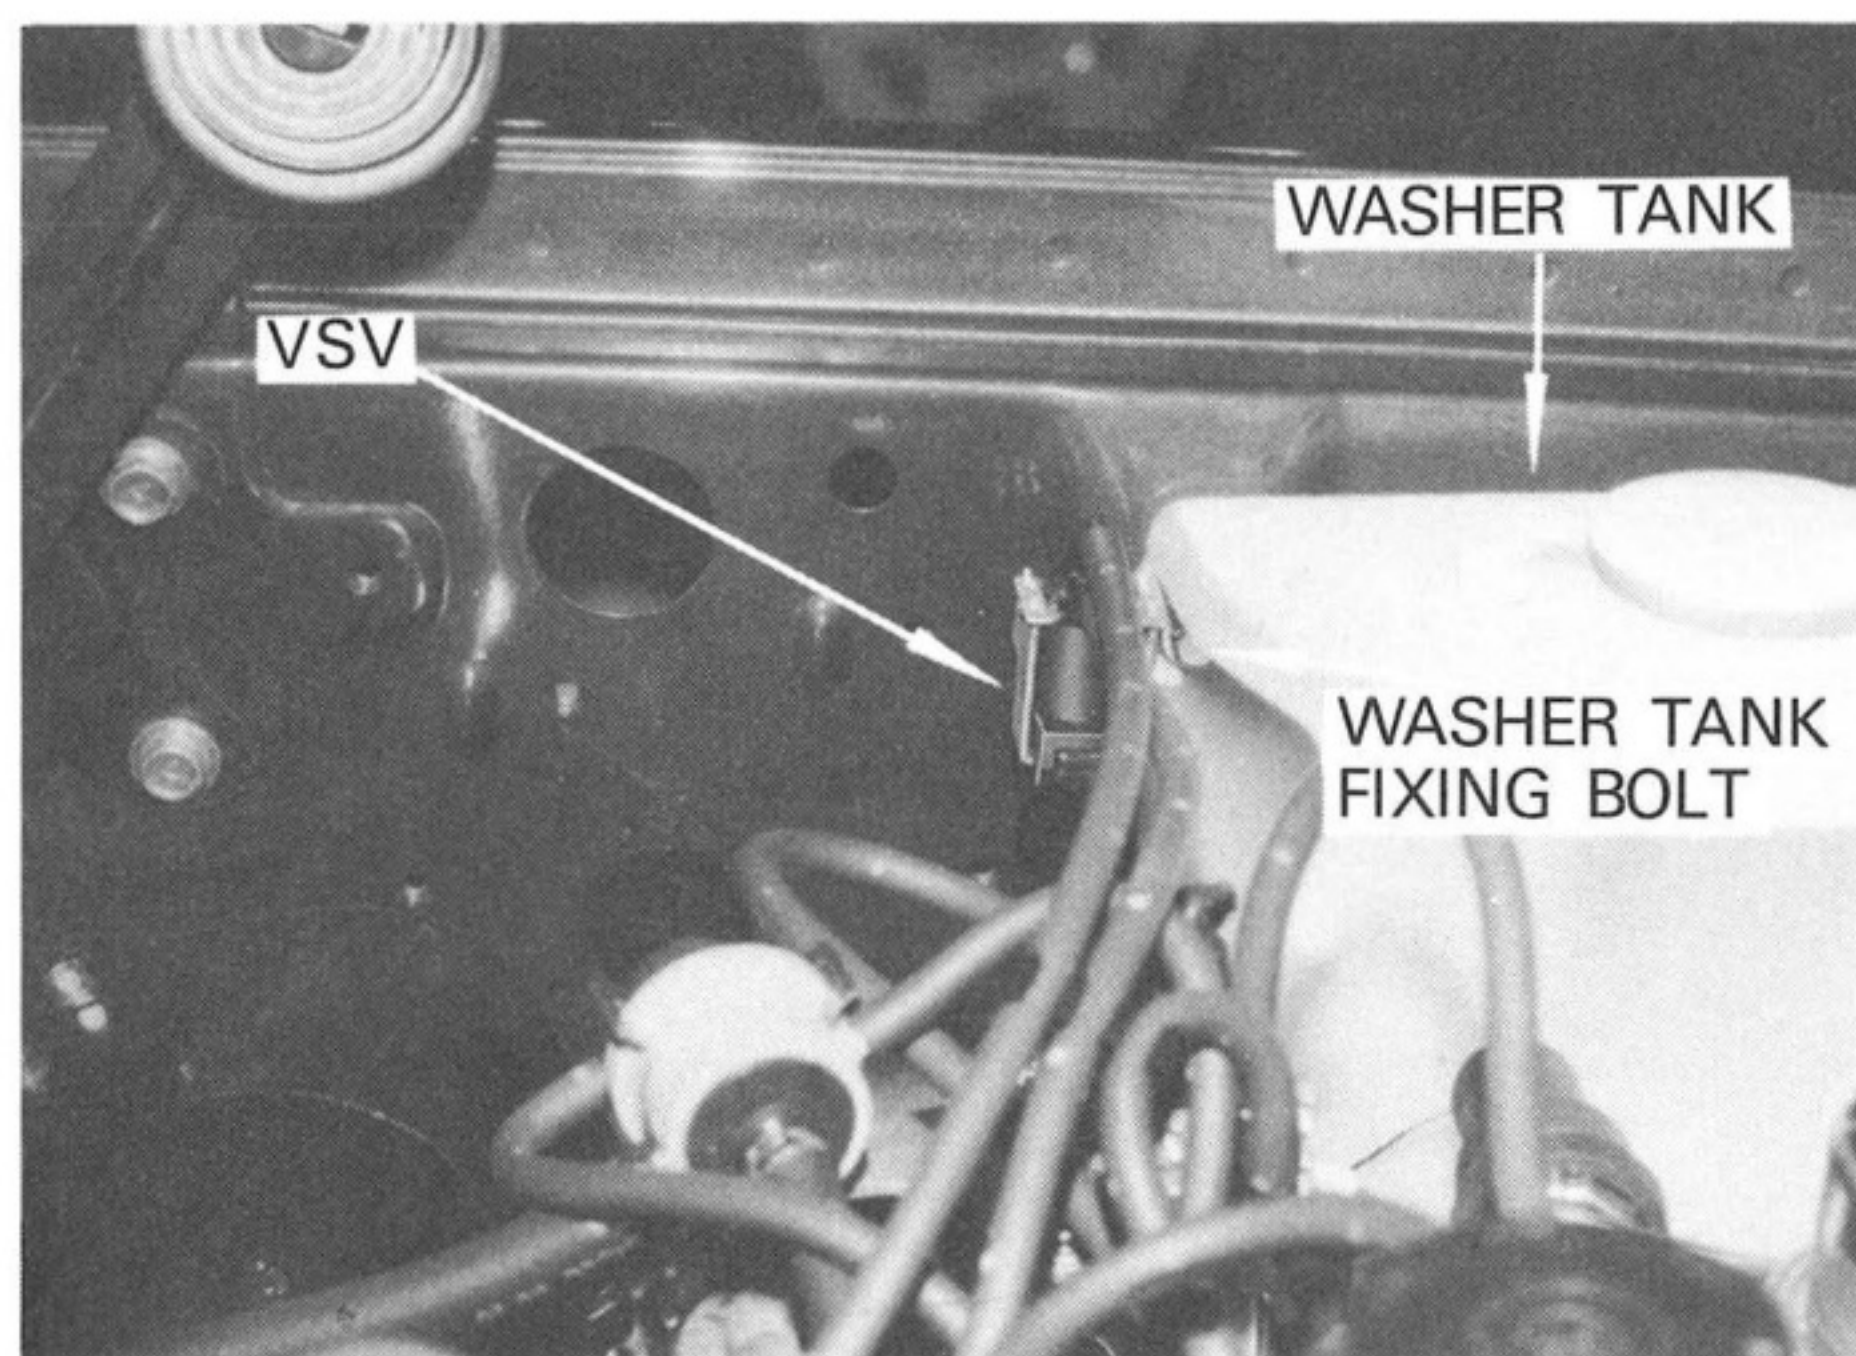

Fig. 36
- A) Install the VSV on the side panel using original washer tank fixing bolt. See Fig. 36.